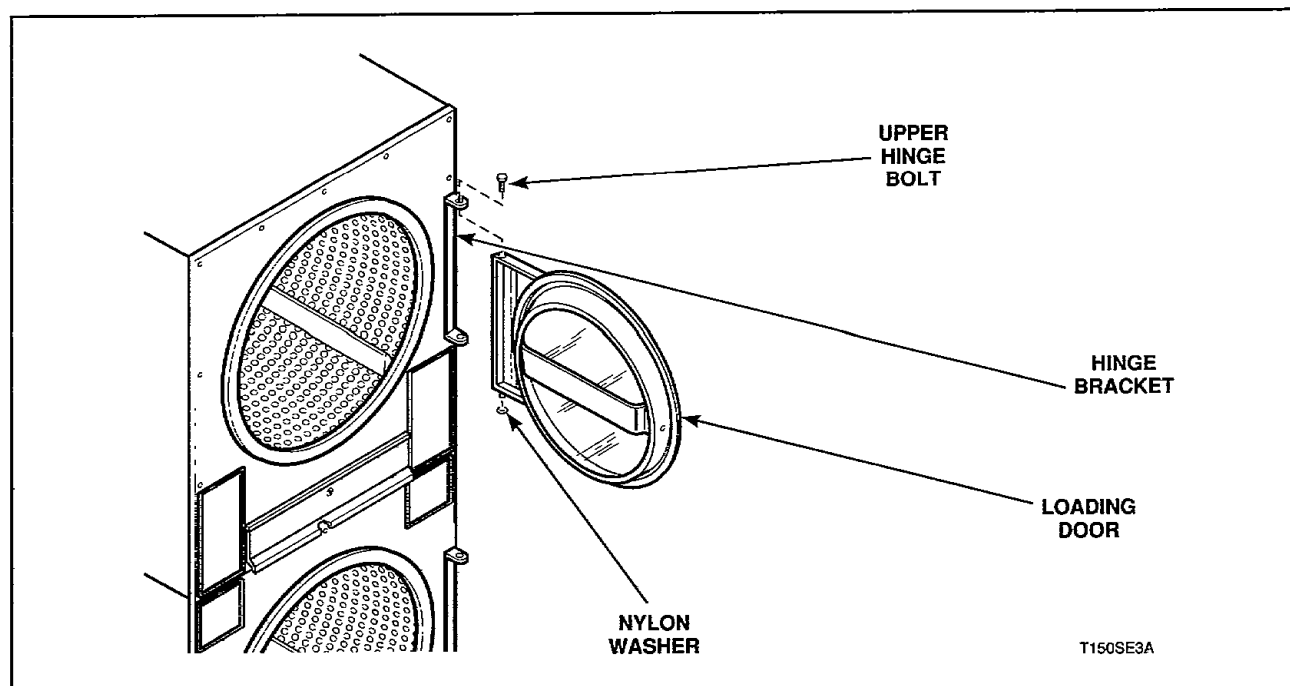

Figure 1
2. LOADING DOOR ASSEMBLY (Figure 1)